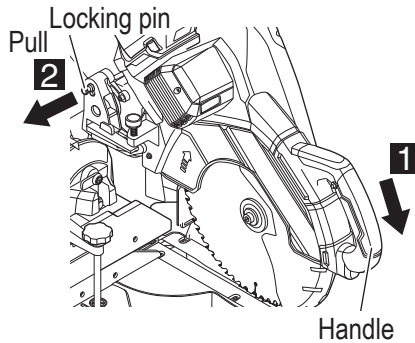

Fig. 12
5. Releasing the locking pin (**Fig. 12**)